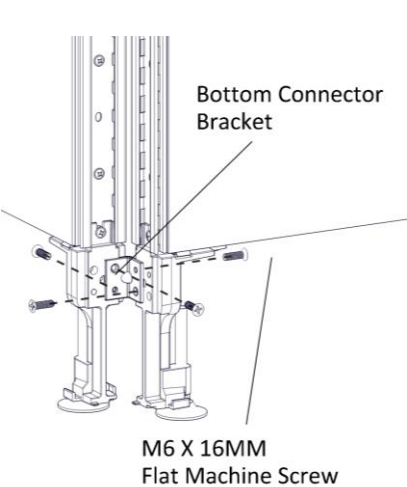

Figure 3
- 6. Securely fasten the bottom corner bracket to the panel legs with four M6 X 16MM Flat Machine Screws, (Figure 3).